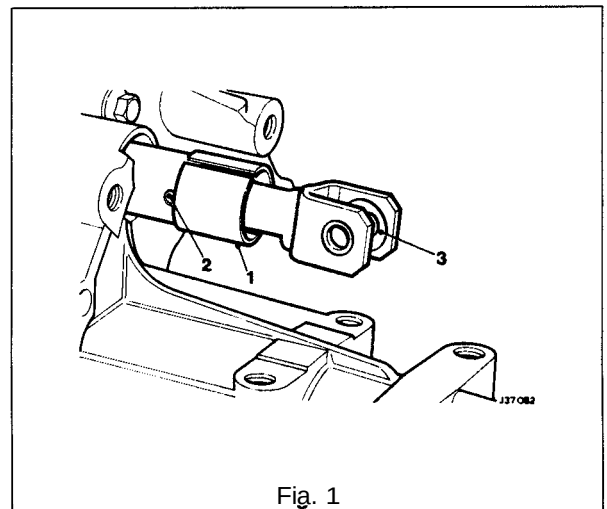

Fig. 1
- Fit and tighten transmission to adaptor plate securing bolts (1 Fig. 1).